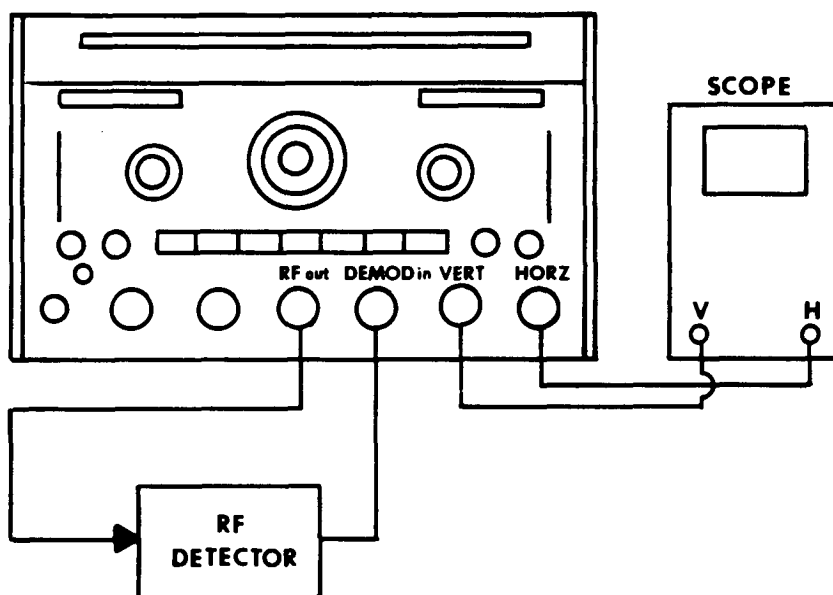
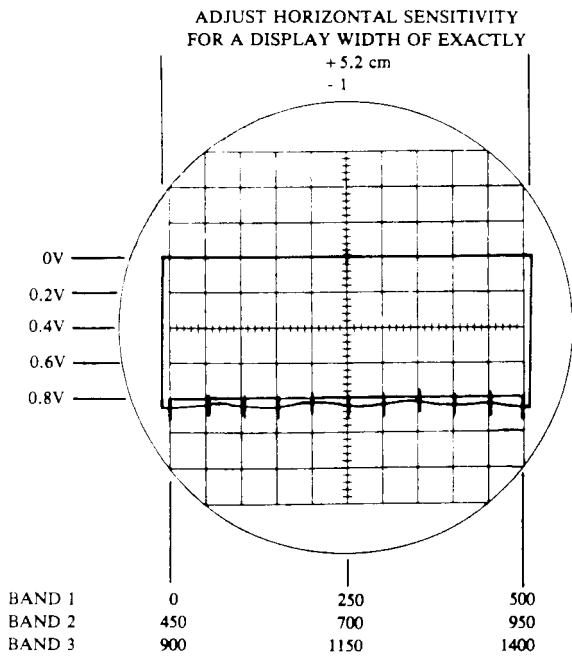

Figure 5-4. Typical Set-Up
Figure 5-5. RF Detector Display
Connect the instrument to the RF detector and scope as shown in typical setup Figure 5-4. Set the SWEEP WIDTH control (right thumb wheel) to 520 MHz and the MODE switch to F. Leave the rest of the controls as previously set in step 5.3.1. Adjust the MARKERS SIZE, the scope vertical, and scope horizontal controls to obtain a pattern as shown in Figure 5-5. Use DC coupling on both the vertical and horizontal scope inputs. The output voltage from the detector will be approximately 0.8 volts. A detected output less than 0.7 volts indicates a defective detector or an uncalibrated scope. Each 50 MHz marker must fall within 0.2 cm of its line on the scope graticule. This is equivalent to a display linearity of 2%. This 2% specification is extremely important since all dial accuracy specification are directly related to it. Repeat check on BANDS 2 and 3. In order to identify absolute frequencies on bands 2 and 3, an external CW signal can be connected to the MARKER IN connector to identify one of the 50 MHz harmonic markers. This also verifies the operation of the external marker circuit.
**Start/Stop Mode:** Set the BAND switch to 1 and the MODE switch to S/S (Start/Stop). Set START to -10 Hz and STOP to 510 MHz. A pattern similar to figure 5-5 should be present on the scope display. Reduce STOP control until the 500 MHz marker just disappears from the right side of the scope display. Read the error of the STOP frequency indicator (red). Repeat at each 50 MHz interval.
To check flatness, set the BAND switch to 1; the MODE switch to S/S; the START to 0 MHz, the STOP to 500 MHz, the OUTPUT controls for +10 dBm. Connect the equipment as shown in Figure 5-4, and adjust the oscilloscope controls for a detected display approximately 8 divisions below the baseline. Check bands 1, 2, and 3, and adjust the oscilloscope controls such that the point of greatest output is exactly 8 divisions below the baseline.
Connect the equipment as shown in Figure 5-4. Adjust the instrument and oscilloscope controls to obtain the display shown in Figure 5-5. The actual control settings would be the same as in Section 5.3.2.